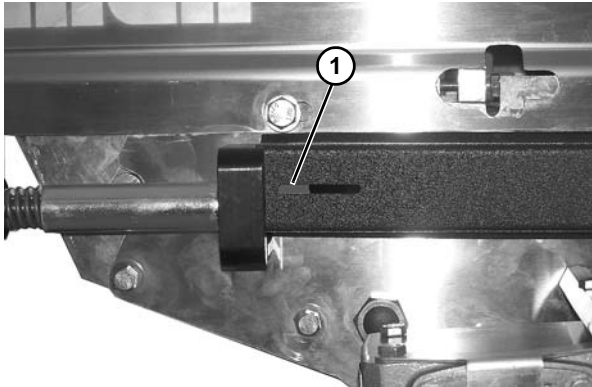

Figure 69
3. If proper belt tension cannot be achieved before the out of tension indicator (**Figure 69, item 1**) begins to turn red, the belt must be replaced.